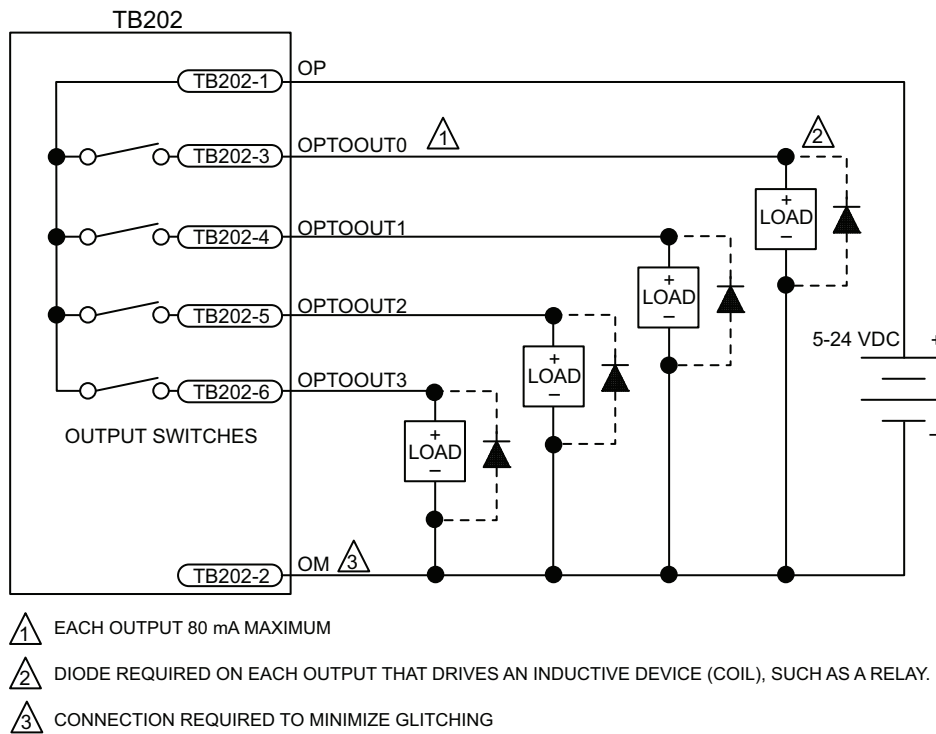
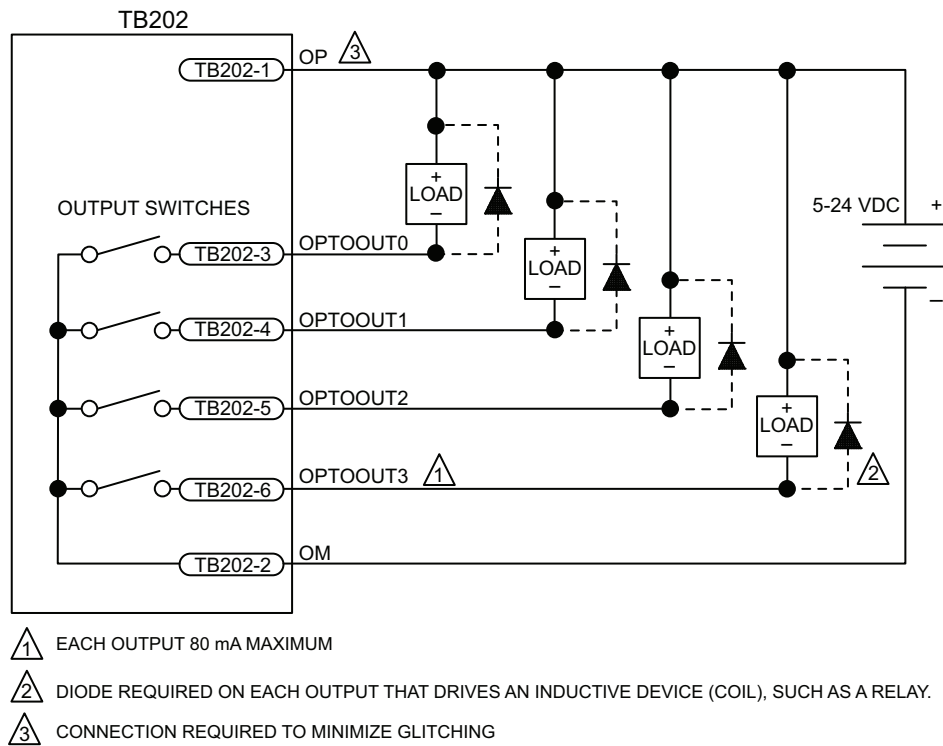

Figure 3-8: Outputs Connected in Current Sourcing Mode
Figure 3-9: Outputs Connected in Current Sinking Mode
Outputs must be connected in either all sinking or all sourcing mode. Figure 3-8 and Figure 3-9 illustrate how to connect to an output in current sourcing and current sinking modes, respectively.
NOTE: Power supply connections must always be made to both the Output Common Plus (OP) and Output Common Minus (OM) pins as shown in Figure 3-8 and Figure 3-9.
Suppression diodes must be installed on outputs driving relays or other inductive devices. This protects the outputs from damage caused by inductive spikes. Suppressor diodes, such as the 1N914, can be installed on all outputs to provide protection. It is important that the diode be installed correctly (normally reversed biased). See Figure 3-9 for an example of a current sinking output with diode suppression and Figure 3-8 for an example of a current sourcing output with diode suppression.